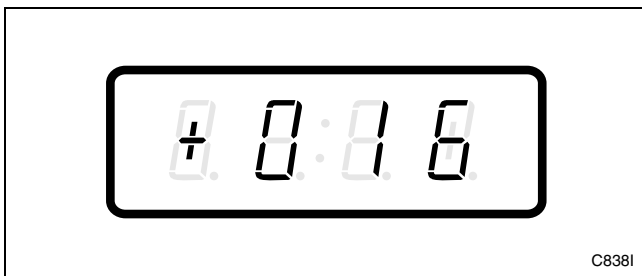

Figure 65
3. Press the DELICATES (+) or the COLD (-) keypad to scroll through the programmable options until “+016” appears in the VFD. Refer to *Figure 65*.